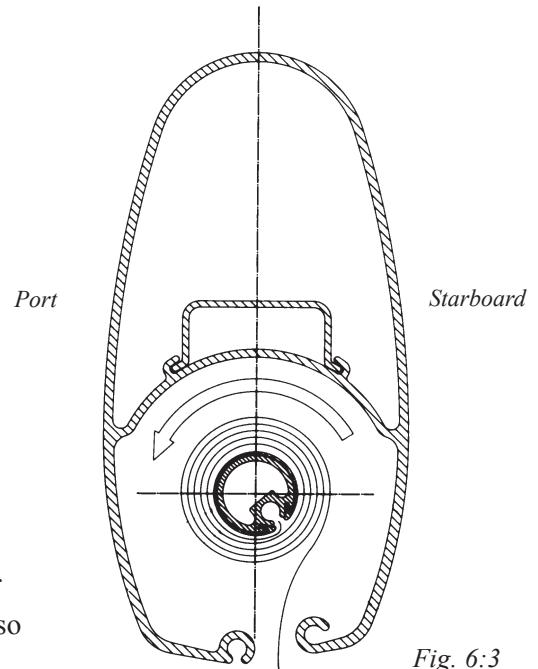

Fig. 6:3
i.e. to its starboard side. (see Fig. 6:3.)